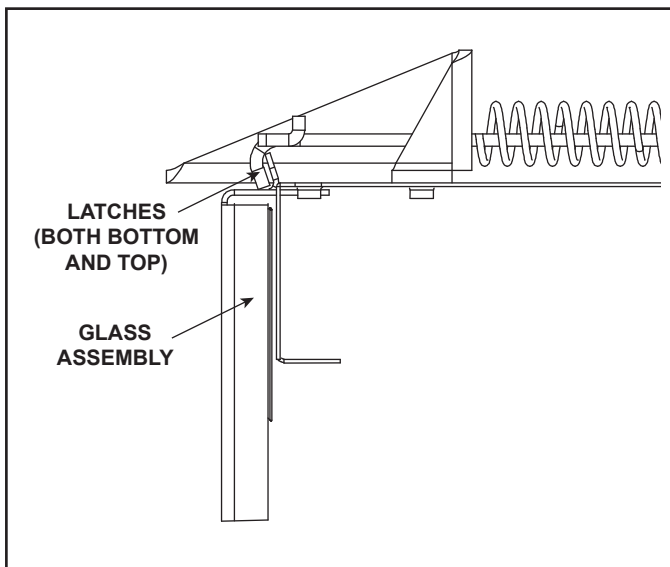

Figure 4.1 Fixed Glass Assembly
- Pull the four glass assembly latches out of the groove on the glass frame. Remove glass assembly from the appliance (see Figure 4.1).
- Pull the four glass assembly latches out of the groove on the glass frame. Remove glass assembly from the appliance See Figure 4.1.